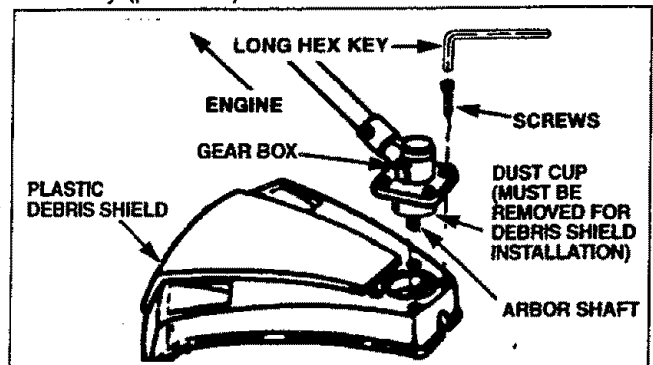

Figure 3
INSTALLING THE PLASTIC DEBRIS SHIELD (Fig. 3)
FAILURE TO INSTALL DEBRIS SHIELD IN THE POSITION SHOWN IN FIGURES 3 AND 4 CAN RESULT IN SERIOUS INJURY TO THE OPERATOR.
- Remove the dust cup from the arbor shaft (ref. Fig. 3).